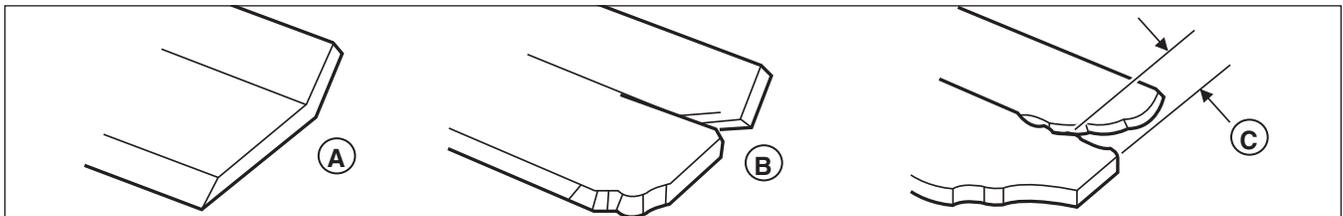

Figure 23. Inspecting the Mower Blade Air Lifts
- B.) The air lifts are excessively eroded (B & C, Figure 23) and the notch (C) is .25" (6,35 mm) deep or greater.